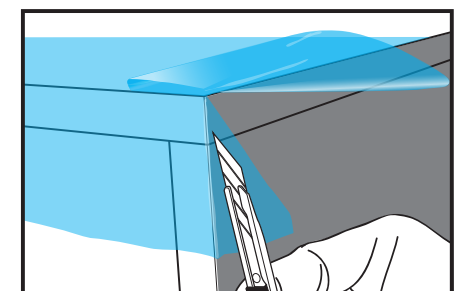

Figure 06
- › Cut any excess material by leaving only approximately 1 mm to 2 mm (0.04 in. - 0.08 in.), (FIG. 06) then cover the adjacent edge.